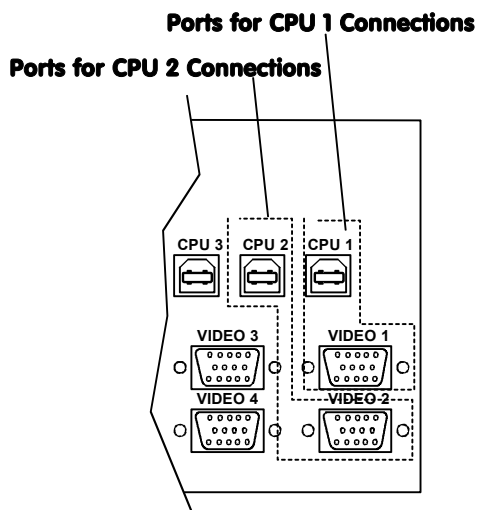

Figure 6- Group CPU ports by like number
- Connect a USB type A cable end of a USBVEXT-xx-MM cable to a USB type A female user device port on a CPU. Connect the USB type B cable end of the same cable to a CPU x port on the UNIMUX switch. Note the port's number. (See Figure 6.)
- Connect the 15HD male cable ends of a USBVEXT-xx-MM cable from the video port of the same CPU to a VIDEO x port of the UNIMUX switch with the same port number as the user device cable. (See Figure 6.)